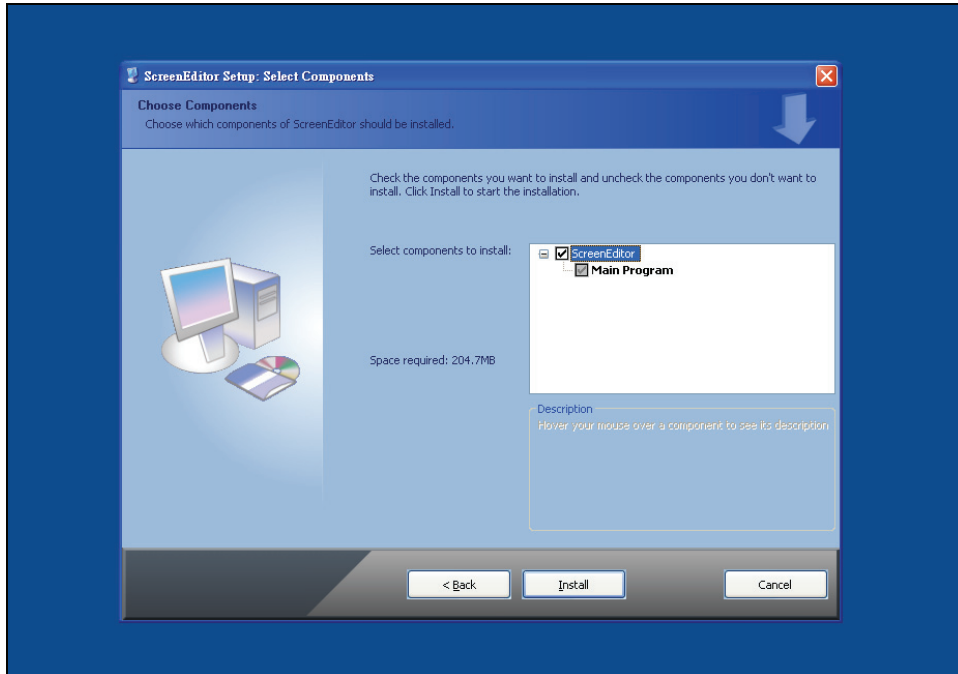

Fig. 2.1.4 Select ScrEdit
- Step 3: After pressing **Next**, system will ask you to select the installation software, i.e. ScrEdit (Fig. 2.1.4).